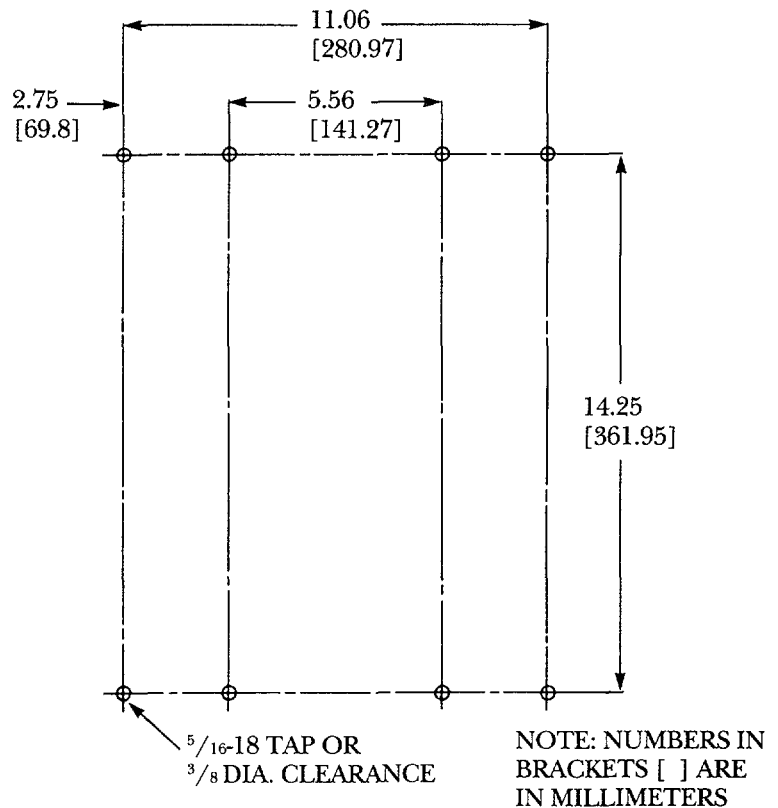

Figure 1. Mounting Hole Pattern
2. Drill and tap panel face for  $\frac{5}{16}$ -18 thread or  $\frac{3}{8}$  dia. Clearance hole per the hole pattern in Fig. 1.